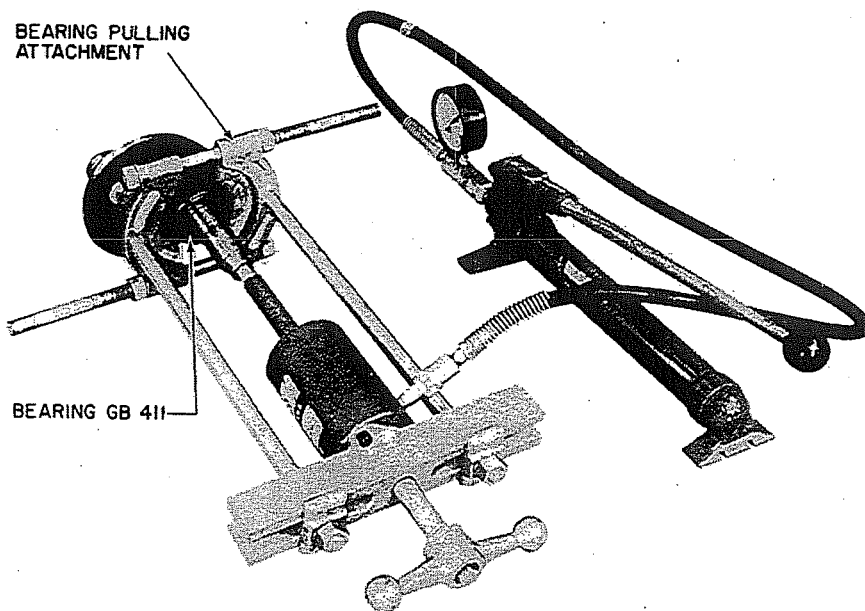

Figure 18. 2 to 1 Shaft, Removal of Bearing GB411
- G. Secure the Bearing Pulling Attachment behind Bearing GB411 (figure 18). The bearing will be removed with approximately 2 tons of pressure.